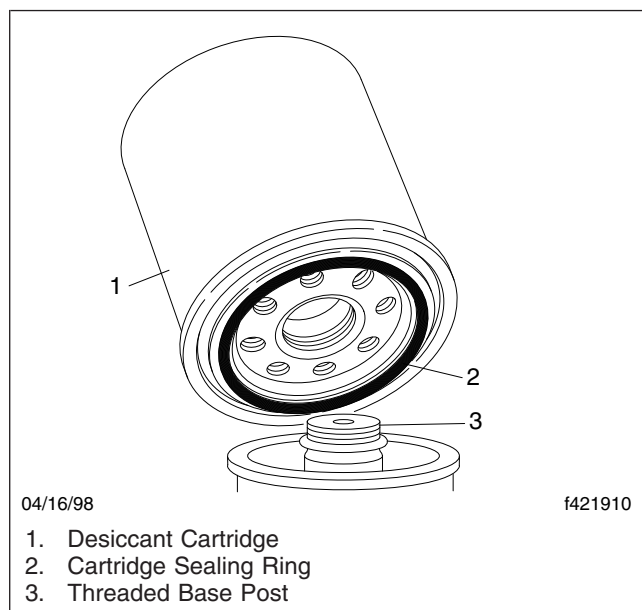

Fig. 4, Desiccant Cartridge Replacement
3. Using a strap wrench or equivalent, loosen the desiccant cartridge. See Fig. 4. Spin the cartridge off by hand and discard it.